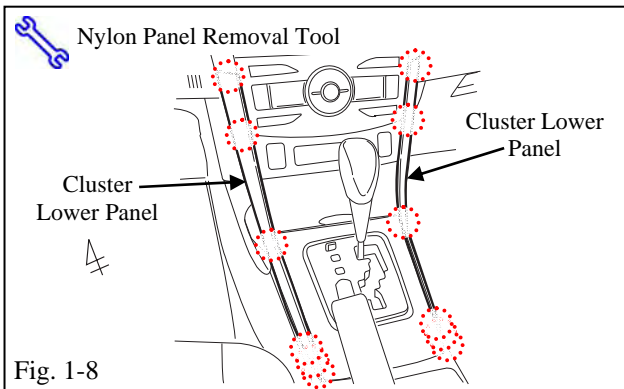

Fig. 1-8
- (h) Remove the left and right side Cluster Lower Trim. (Fig. 1-8)